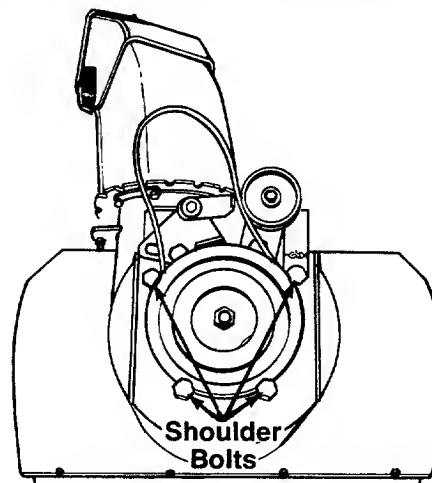

FIGURE 32.
7. Using a 15/16" wrench, remove the four shoulder bolts and cupped washers which act as belt keepers. See figure 32.